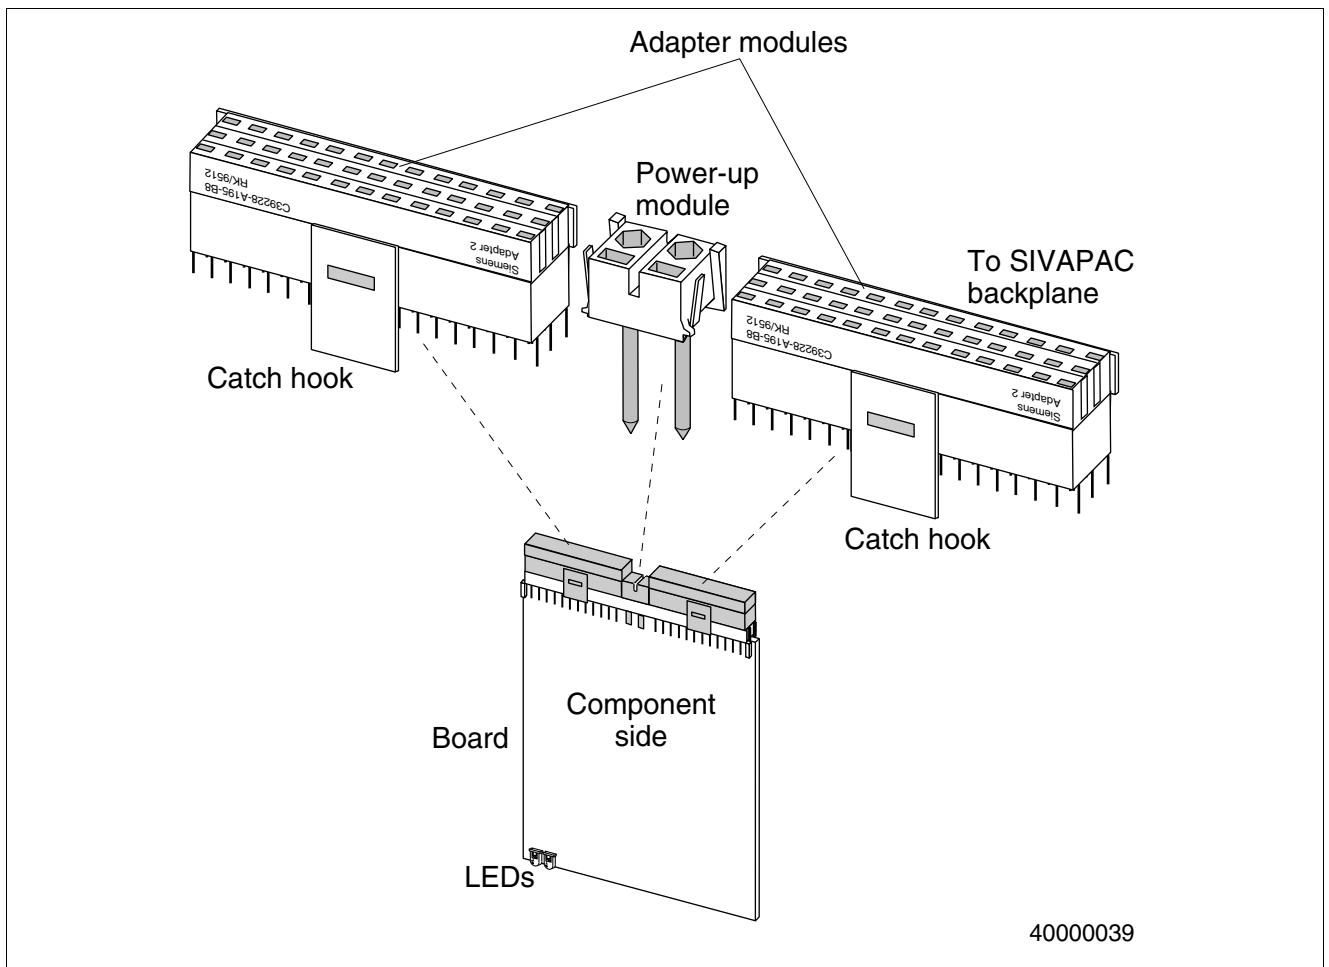

Figure 6-20 SIPAC to SIVAPAK Board Adapter 2
The board Adapter 2 comes in three pieces: one power-up module and two adapter modules (see Figure 6-20).
2. Insert the power-up module into the middle section of the backplane connector as shown in Figure 6-20.
4. Position the adapter module over the backplane connector of the board. Ensure that each adapter module's outer edge corresponds with each outer edge of the board as shown in Figure 6-20.